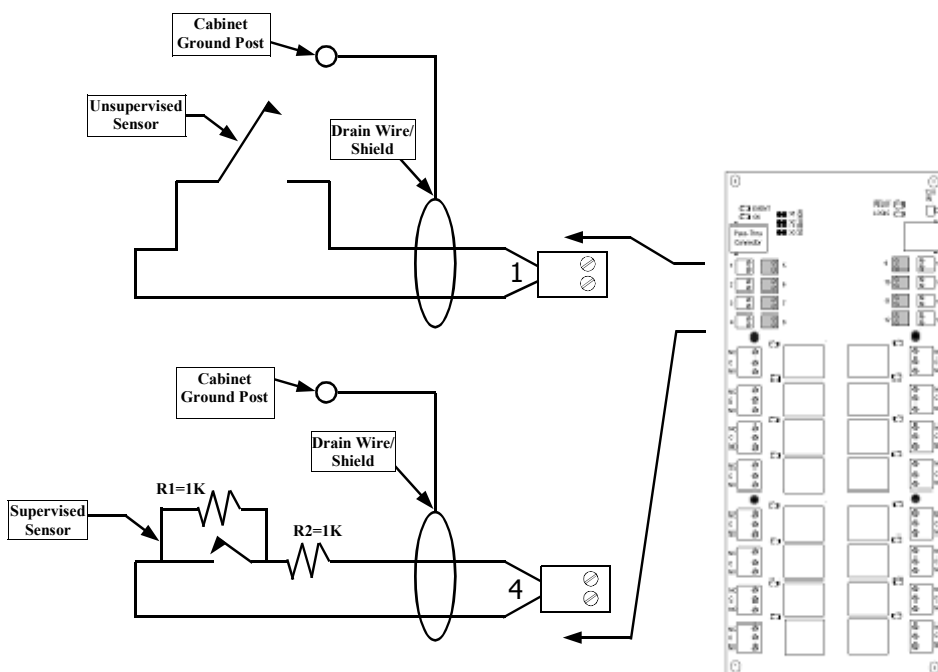

Figure 12 - ALARM Terminal Strip - Unsupervised and Supervised Alarm Connections
Each Alarm/Relay Board has a total of 16 supervised alarm inputs. These are located on the top portion of the PC Board. The inner columns use "Riser" Headers to ease wiring. (see Figure 12). These alarm inputs may be used for dry contact type inputs (unsupervised) or supervised alarms.
2. Install R1 in parallel with the alarm contacts (see Figure 12).